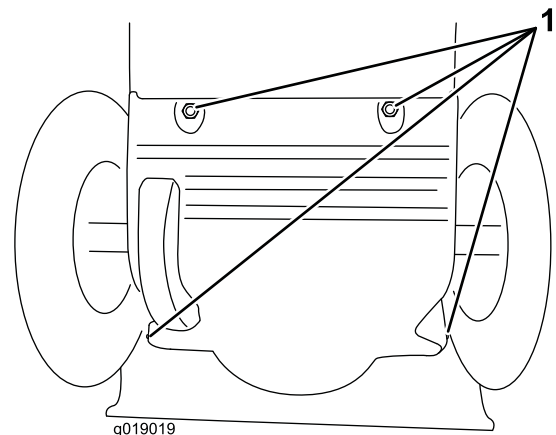

**Figure 34**
Lightly lubricate the hex shaft yearly with automotive engine oil (Figure 34).
**Important:** Do not get oil on the rubber wheel or the steel friction pulley because the traction drive will slip (Figure 34).